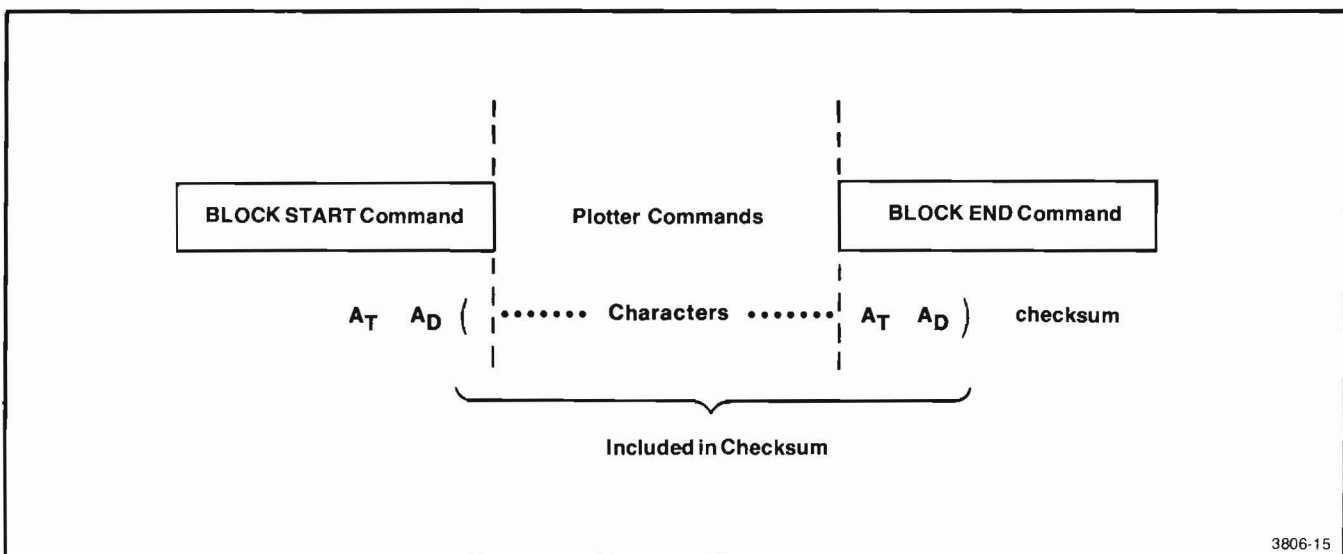

Figure 4-9. Block Mode Checksum.
**Block Mode Checksum.** The checksum contained in the BLOCK END command is computed by adding each 7-bit character of the block into a 12-bit accumulator with an end-around-carry of any overflow. The block characters included in the checksum extend from and include the "(" in the BLOCK START command to the ")" in the BLOCK END command, as shown in Figure 4-9.